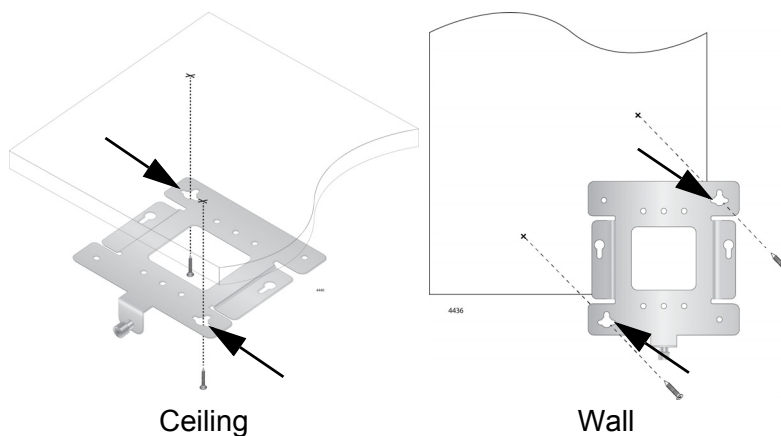

Figure 8. Marking/Pre-Drilling Holes the Mounting Bracket Key-Holes
2. Using the mounting bracket as a template, mark the two key-hole slots with a pencil in the location and orientation where you want to install the access point. Refer to arrows in Figure 8.